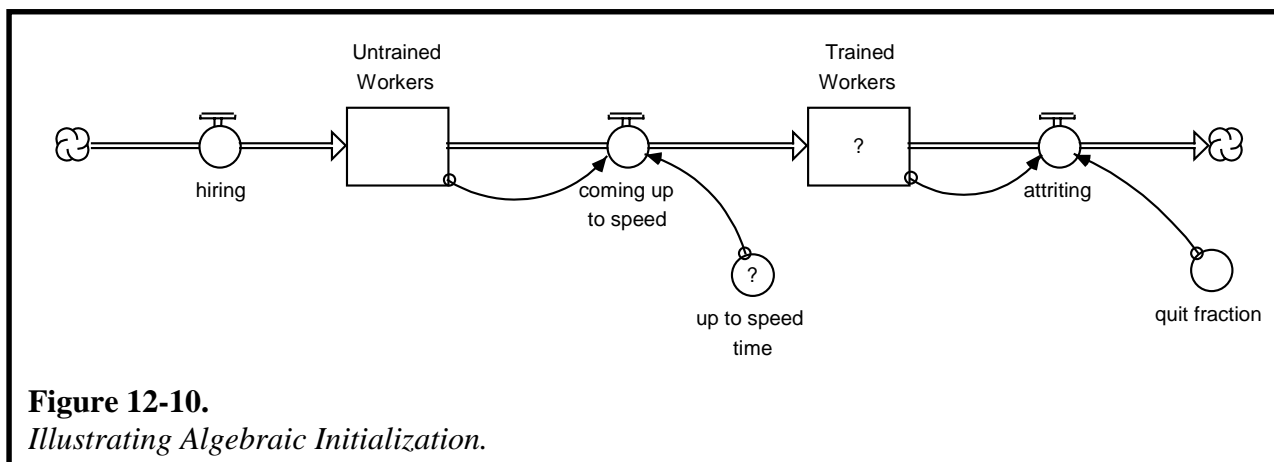

Figure 12-10.
- Once you've determined the amount of latitude you have, use the data which are "most solid" to infer values for those parameters whose values are "least solid." Give yourself plenty of license in determining "less solid" parameter values. Because few real systems are in steady-state, you'll often need to modify numbers taken from an actual system in order to achieve a steady-state. After completing steady-state-based tests, you can substitute "real" values back in. Whenever possible, use algebraic initialization to establish initial values for stocks. We'll illustrate this process using the model pictured in Figure 12-10.